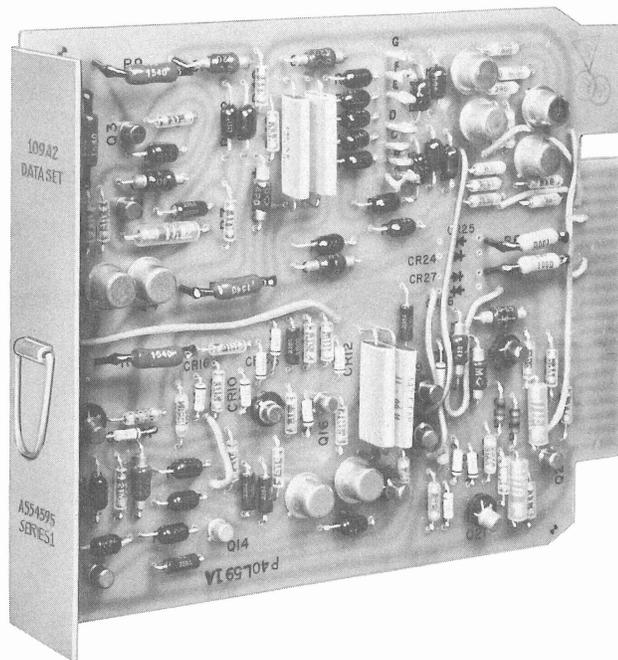

Fig. 7—Data Set 109A
**5.01** There are no preoperative adjustments and tests required for Data Set 109A (Fig. 7).